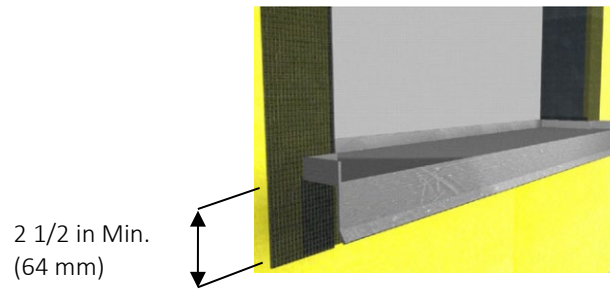

Fig. 7
- a. Install a watertight pan flashing at all sill locations - Figure 7.
- c. The flashing shall extend a minimum of 2 1/2 in (64 mm) down over the face of the Outsulation System Figure 7.